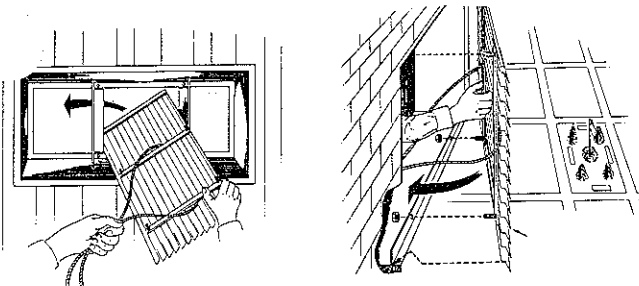

FIGURE 3 OUTDOOR LOUVER
8. Remove temporary weather panel and install outdoor louver. Tie a safety line to the louver, then place the louver (fins facing outdoors and blades downward) through the outdoor opening of the wall box. Pull inward until the louver is squarely seated in recess of cabinet/sleeve. Mount louver using (4) nuts supplied. (See Figure 3).
10. Install and attach chassis to cabinet/sleeve mounting studs (2) and tighten nuts on studs. Nuts are packed in hardware bag in cooling chassis carton.
11. Attach front panel to (4) metal tabs on cabinet sleeve. To remove, lift up to disengage slots in front panel from metal tabs on cabinet/sleeve.